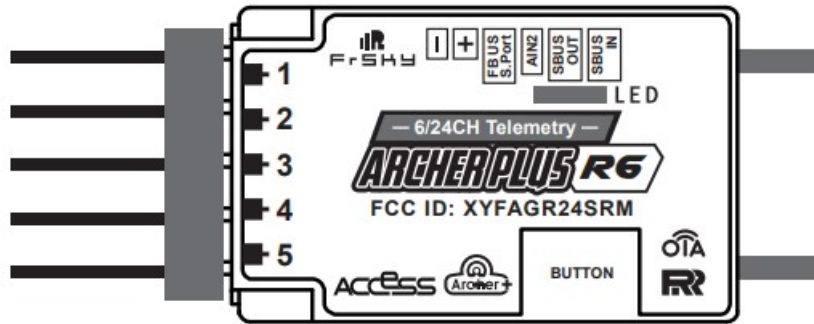

Figure 40: Archer Plus R6
- Telemetry power cable connected to AIN2. (Figure 40)
- ii. On the Archer Plus R6, hold down the receiver button while powering up the Archer Plus R6. (Figure 40)